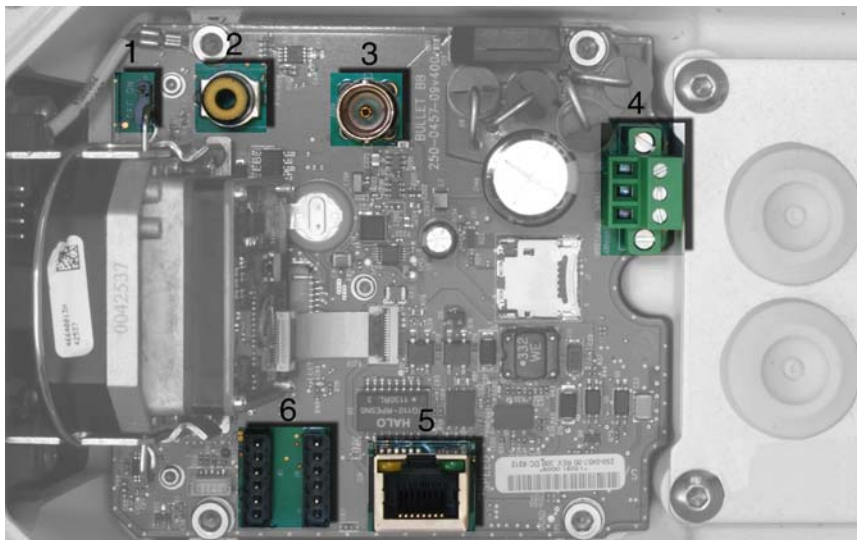

Figure 1-7: Camera Connections
- Step 11 Connect the cables as indicated in Figure 1-7 on page 1-7. Ensure that any ground wire that was removed during installation is reconnected. Replace the cover and tighten the four 3 mm hex screws to 1.8 n-m (16.0 in-lbs).